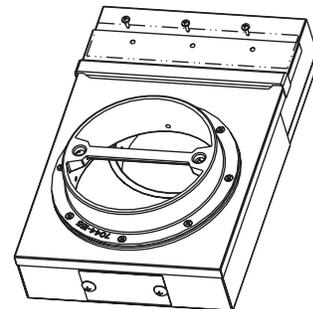

Figure 40.5
4. Cut the gasket to the proper length and slide in between the upper and lower chambers centered on the screw holes. Attach the upper and lower chambers with screws provided (**Figure 40.5**).